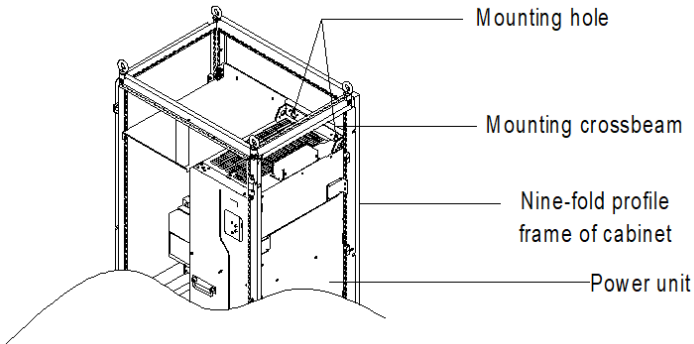

Figure 4–12 Three-dimension view of mounting GD270-280-4–GD270-500-4 in a cabinet
2. Fix the bottom support crossbeams and mounting bracket. (See Figure 4–13.)